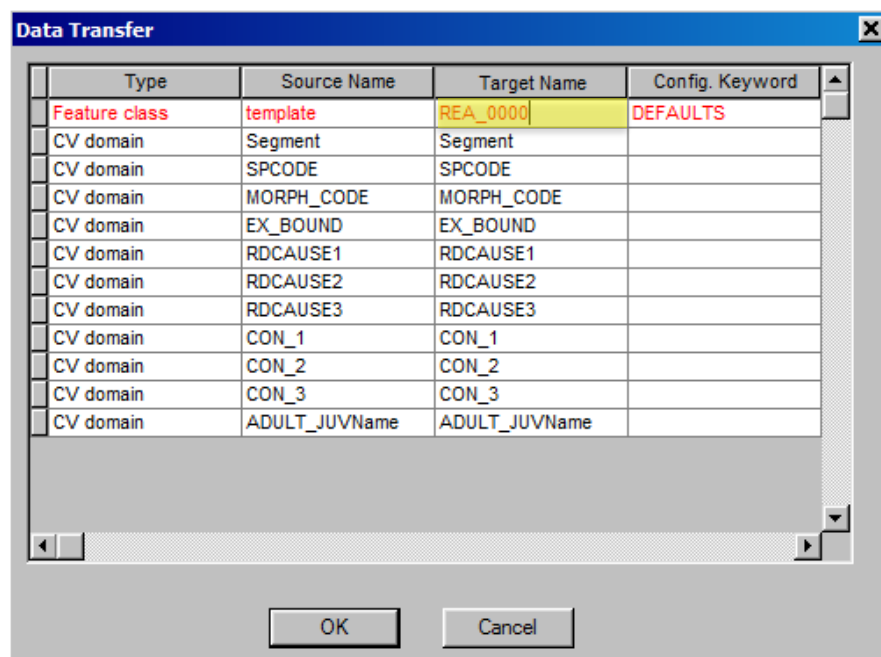

Figure 27. Screenshot of Data Transfer window in ArcMap.
4. A screen titled 'Data Transfer' will pop up. The only box that is necessary to edit is in the first row in red under Target Name (highlighted in Figure 27)—change this to the project site name (i.e. site#) → OK.